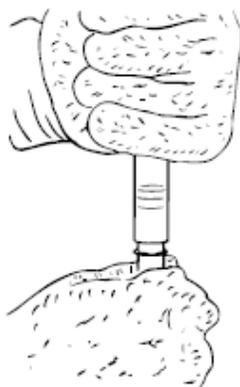

Figure 5: Removing the sample tube
9) When **30** min is up, put on the heat-resistant gloves. Remove the first tube from the block and **immediately** pull off its sample tube using a downward, twisting motion as opposed to a sideways motion (Figure 5). You must pull off the sample tube **within 4 s** of removing it from the block or suck-back of the sample will occur (*if you are using the DRB200, see the troubleshooting section at the end of the note for instructions on the DRB200's timer*). Drop the sample tube and the hot solution left in it into a waste bucket reserved for this purpose.